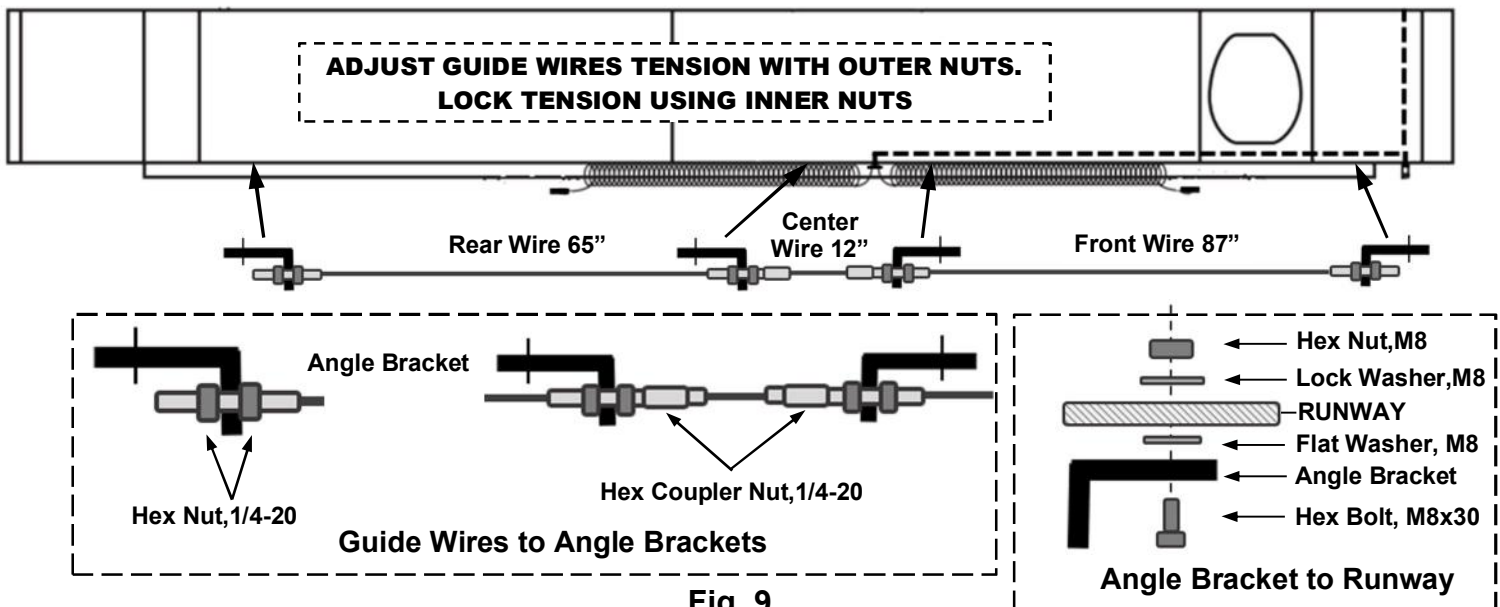

Fig. 9
- 6) Attach 4ea Angle Brackets to the mount holes on the inside of Main Side Runway using M8 x 30mm Hex Bolts, M8 Flat & Lock Washers, and Hex Nuts, as shown in **Fig 9**.
- 7) After attaching Angle Brackets to runway, route the Guide Wires (Front, Rear & Center) through Coiled Air Tubing, then attach ends to Angle Brackets using 8ea 1/4" Hex Nuts & 2ea Hex Coupler Nuts, **Fig 9**.